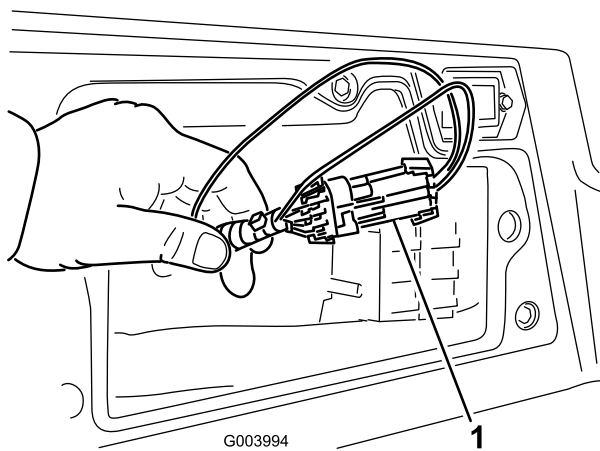

Figure 24
3. Locate the wire harness and connectors near the controller (Figure 24).